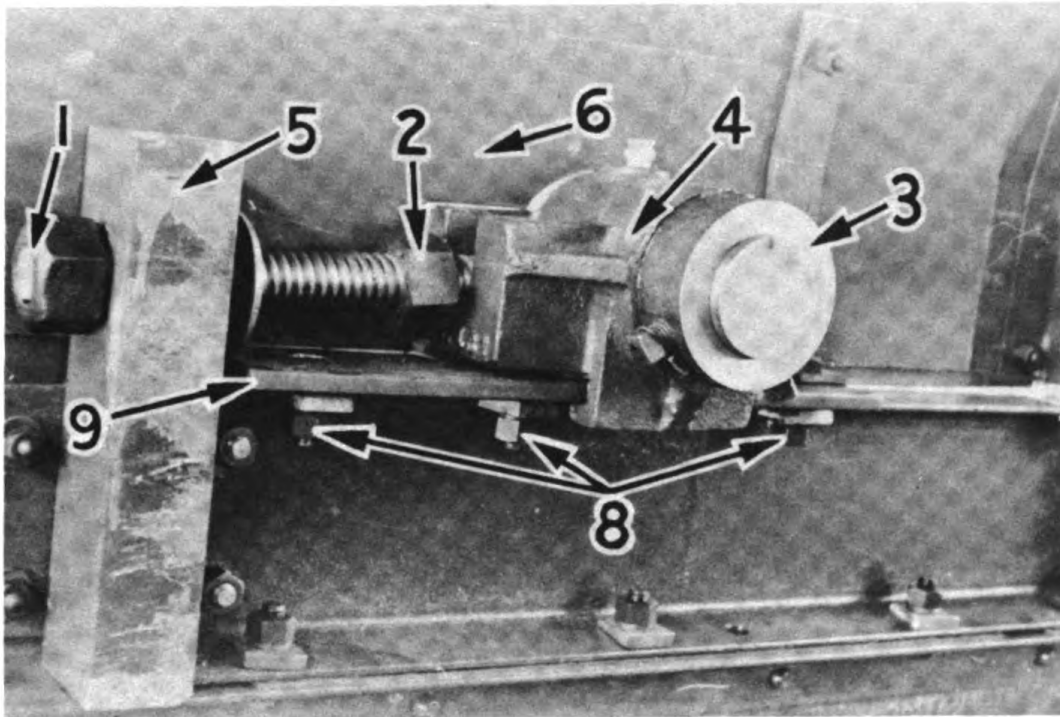
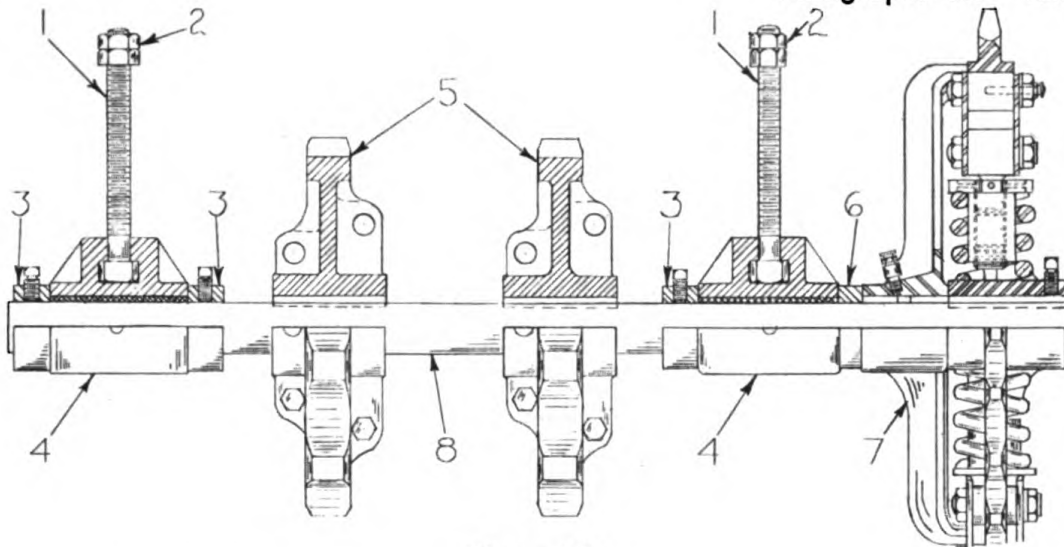

Figure 486
Figure 490
Take up of this chain is accomplished by means of two adjusting bolts (1) figure 486 at the elevator headshaft. To tighten the chain loosen lock nuts (2) as shown and take up on bolts till the chain is in proper adjustment. Then tighten lock nuts against bar (5). Each bolt should be taken up an equal amount to maintain proper sprocket and chain alignment. This chain is properly adjusted when the clearance between the return bucket line chain and the cross brace on the chassis superstructure is from 4" to 6". At no time should the chain be allowed so much slack that the bucket lips on the return line scrape the return pans at any point as the pans will wear through very quickly if this condition exists. **CAUTION:** When the bucket line chain is tightened, the bucket line drive chain is also tightened. This should be checked for proper tension.
- (c) Secure hoist sling around headshaft (8) figure 490 between sprockets (5) and collars (3). Hoist the head end up until the elevator rollers (2) figure 489 are clear of the curved track (12), on the superstructure frame. The elevator is now supported on the spiral end and by the sling at the head shaft and the Pivot Shaft (1) is free for removal.
The overload release sprocket (7) figure 490, head sprockets (5), take up bearings (4) and bolts (1) fall into this category.
- (d) Release tension of springs (5) of overload release sprocket. Hub and sprocket (7) figure 490 may be pulled off shaft.
- (f) Remove take up bolts (1).
- (g) Take out bolts (8) figure 486, bars (9), also collars (3) figure 490 and (6).
- (h) Bearings (4) may be removed.
- (i) Loosen take up bolts (1) figure 490 allowing headshaft (8) to lower to the minimum position.
- (l) Remove bolts in sprockets (5). The sprocket halves may now be removed. Keep sprockets as removed from shaft.